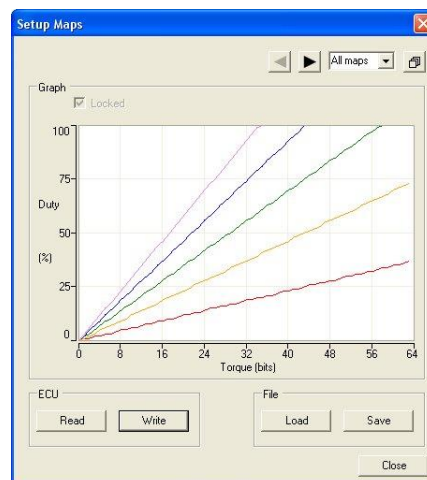

Figure 9 - Setup Maps Dialog (All Maps)
3. Once map data is available the Setup Maps dialog displays all five maps on the same set of axes (Figure 9).